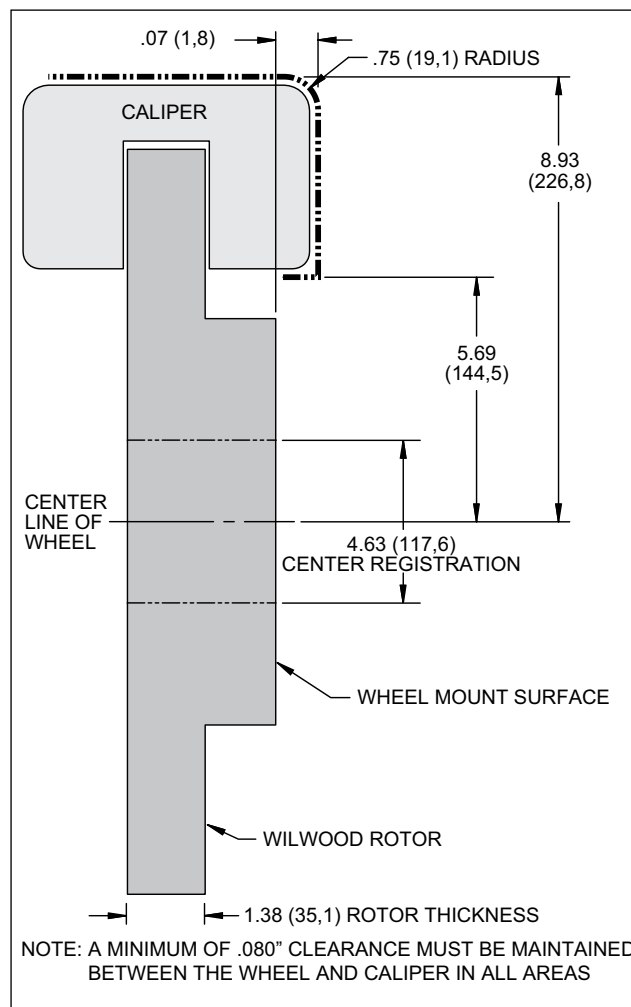

Figure 2. Wheel Clearance Diagram
- Review the wheel clearance diagram (figure 2, page 3) to verify that there is adequate clearance with the wheels you will be using with the installation.
Verify your wheel clearance using Figure 2.